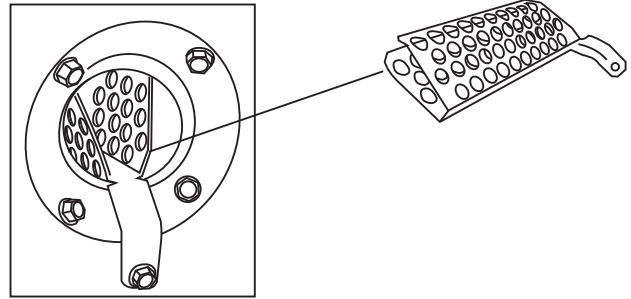

Fig. 19 - Nox Device Removal
1. Remove the screw underneath the heat exchanger inlet that secures the NOx device in the heat exchanger. (See Fig. 19.)